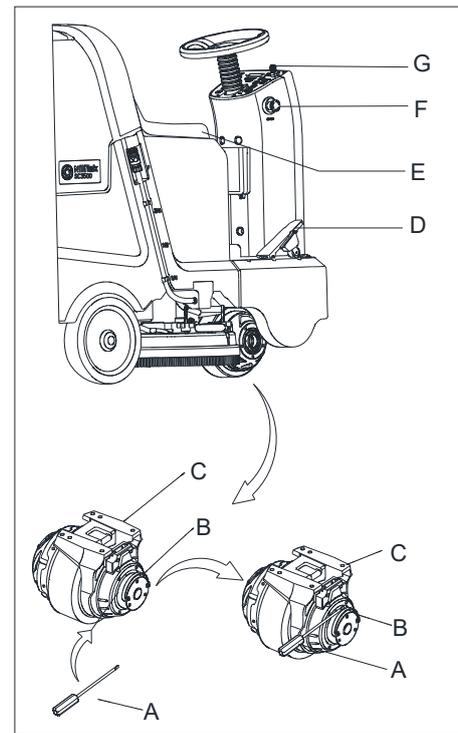

Figure 6
1. Turn the key switch (G Figure6) to “ON”
2. Depress the accelerate pedal (D Figure6) slightly then loosen it to check if the machine can be steered forward and stopped.
3. To ensure the security, confirm if the machine can be stopped immediately by pressing the emergency button (F Figure6). Rotate the emergency button to reset it.
In some special cases, such as machine packing/unpacking, machine fault etc., need to move the machine without drive motor working, please insert A screwdriver (Figure6 A) drive motor brake (Figure6 B) and motor (Figure6 C) between the grooves (Figure6), the machine brake is released, the machine can be moved, after completion, please take out the screwdriver, otherwise will not be able to start the machine.